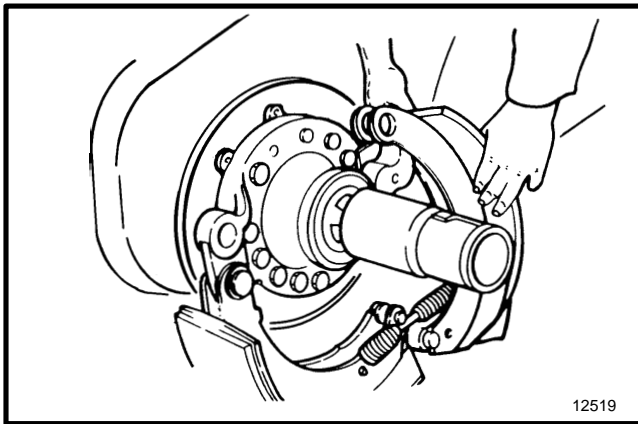

FIGURE 12.
9. Rotate the top shoe to release the tension of the return spring. Remove the shoe. See FIGURE 12.